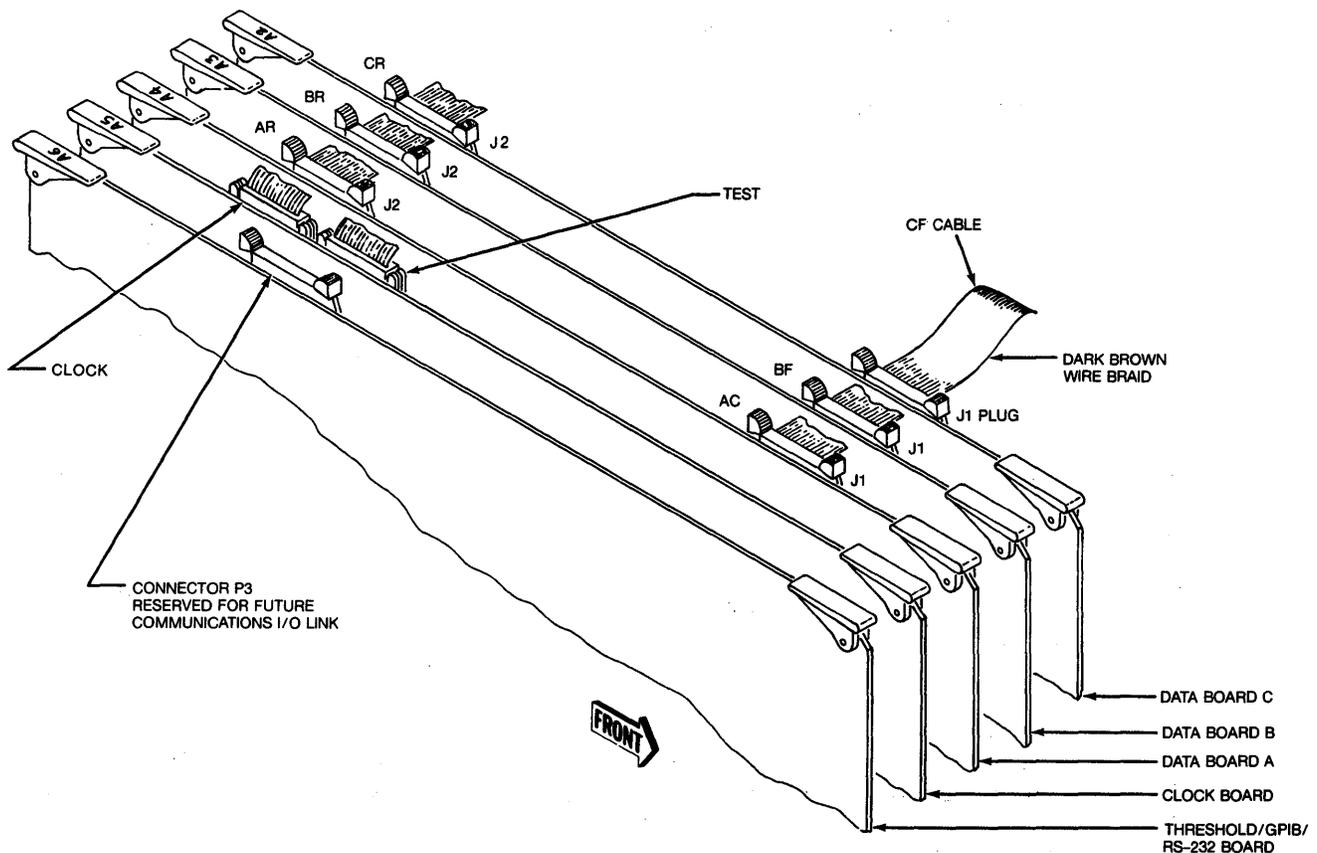

Figure 6-2. K205 Ribbon Cable Connections at Card Cage
7. Referring to Figure 6-2, locate the two unattached ribbon cables labeled CF and CR. Install the CF ribbon cable connector on J1 near the front of the machine. The dark-brown wire braid on the connector should be located to the front of the machine. (NOTE: If J1 is installed backwards, equipment will not be damaged; however, the data at D0 will be displayed on channel D7. Reversing the connector will correct this condition.) Next, install the CR ribbon cable connector on J2 near the rear end of the machine. The correct cable connections are shown in Figure 6-2.
8. Carefully replace the harness connectors removed earlier in Step 3. Ensure each harness is connected to its respective socket, as shown in Figure 6-2.